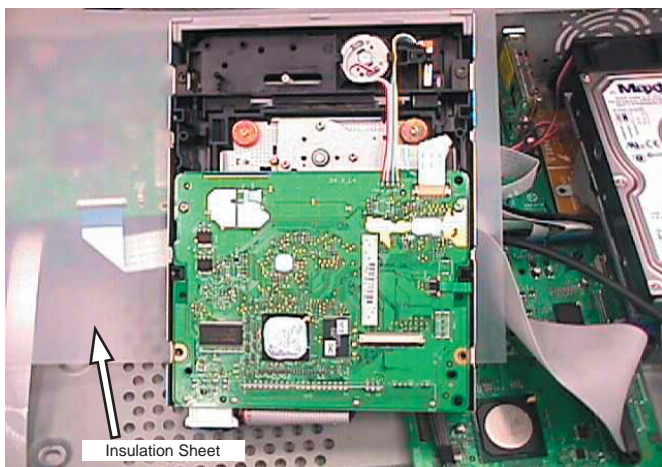

Figure 4-12: Basic Engine Service Position
- 3) Remove 4 screws to loosen the Cover of the Basic Engine to reach Service position Figure 4-12.